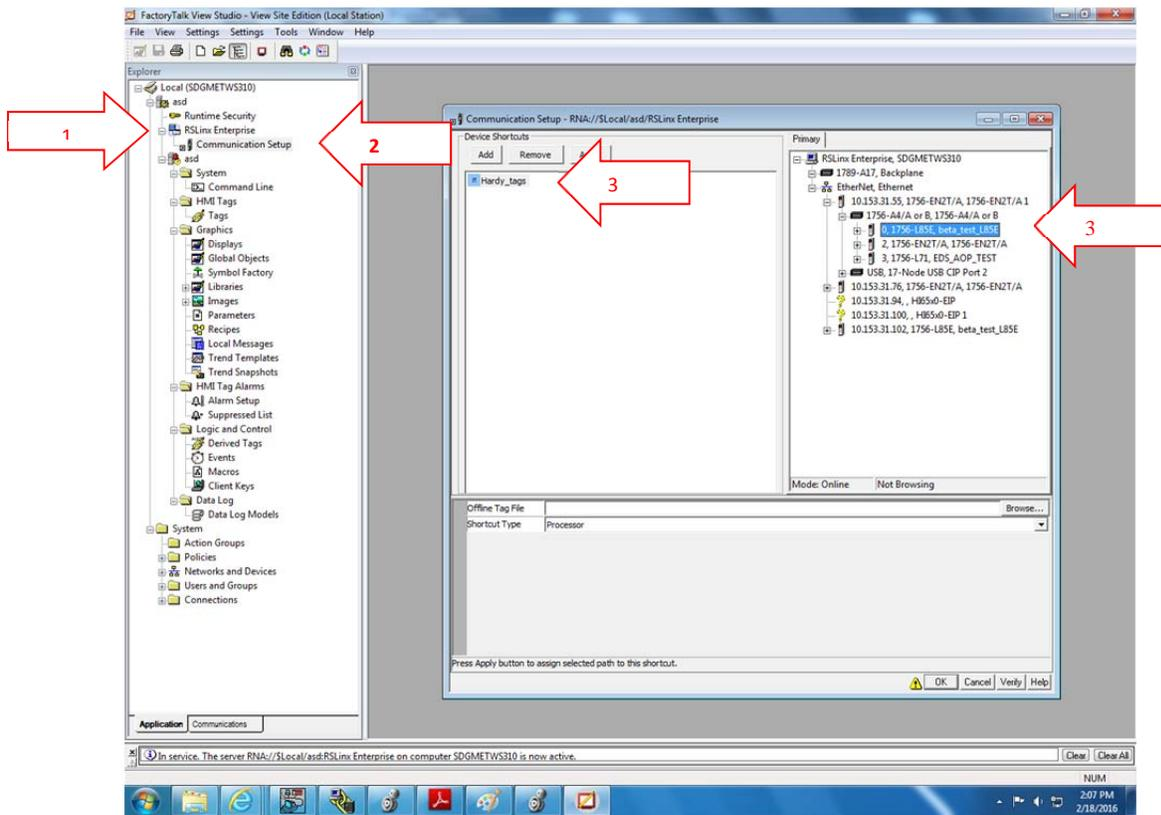

Figure 19
- In the PRIMARY window expand the driver being used to connect with the PLC processor and highlight the processor. With both the processor and the shortcut tag names now highlighted; click ok then yes to apply changes. See Figure 19, note 3.